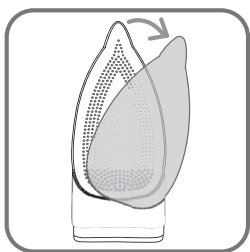

fig.1
**IMPORTANT** Before doing anything else, remove the soleplate protector **fig.1**